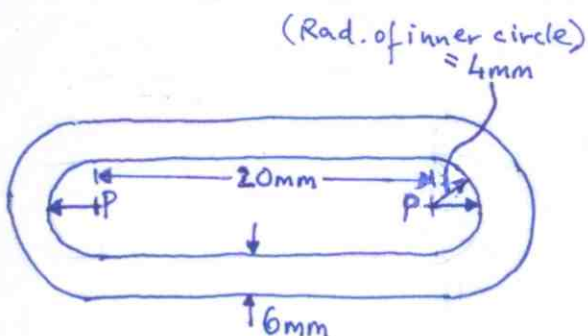

Fig. 4
4. The link in Fig. 4 has a circular cross section and is made of steel having a yield strength of 250 MPa. Determine the magnitude of P that will initiate yielding. For a circular section (refer Fig. 4a) $A_m = 2\pi(R - \sqrt{R^2 - b^2})$.